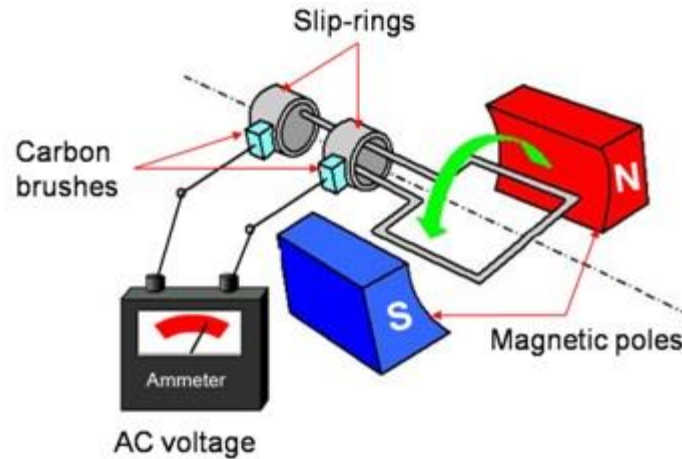

Figure 2.4.2 Construction and working of AC generator
An alternating current (AC) generator can also be used as a tachogenerator. It comprises of rotor coil which rotates with the shaft. Figure 2.4.2 shows the schematic of AC generator. The rotor rotates in the magnetic field produced by a stationary permanent magnet or electromagnet. During this process, an alternating emf is produced which is the measure of the angular velocity of the rotor. In general, these sensors exhibit nonlinearity error of about $\pm 0.15\%$ and are employed for the rotations up to about 10000 rev/min.